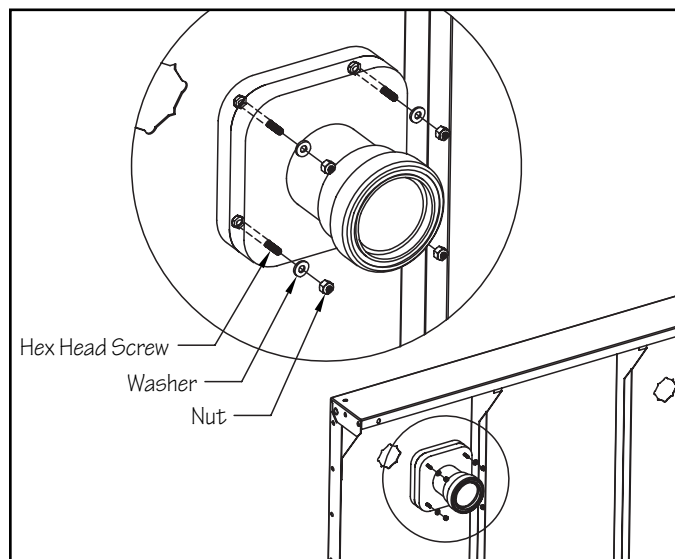

Fig. 30
Insert the (4) hex head screws, located in the thru-wall hardware bag, in the small holes in the panel. Install a washer on each bolt and secure the bolts with the nuts provided. Fig. 30.